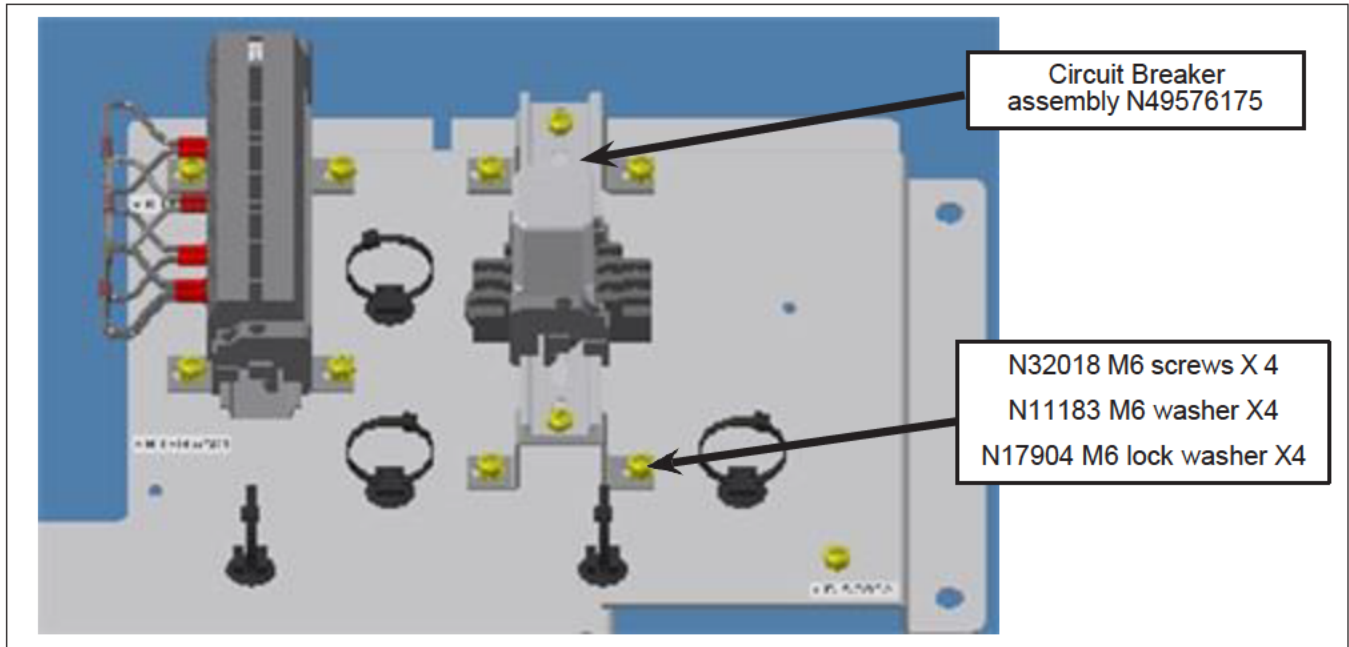

Figure 3 - N49576175 Circuit Breaker Assembly Installation
- 1.11. Install the N49576175 circuit breaker assembly on the IB electrical panel using N32018 M6 screws, N11183 M6 washer and N17904 M6 lock washer. See Figure 3.